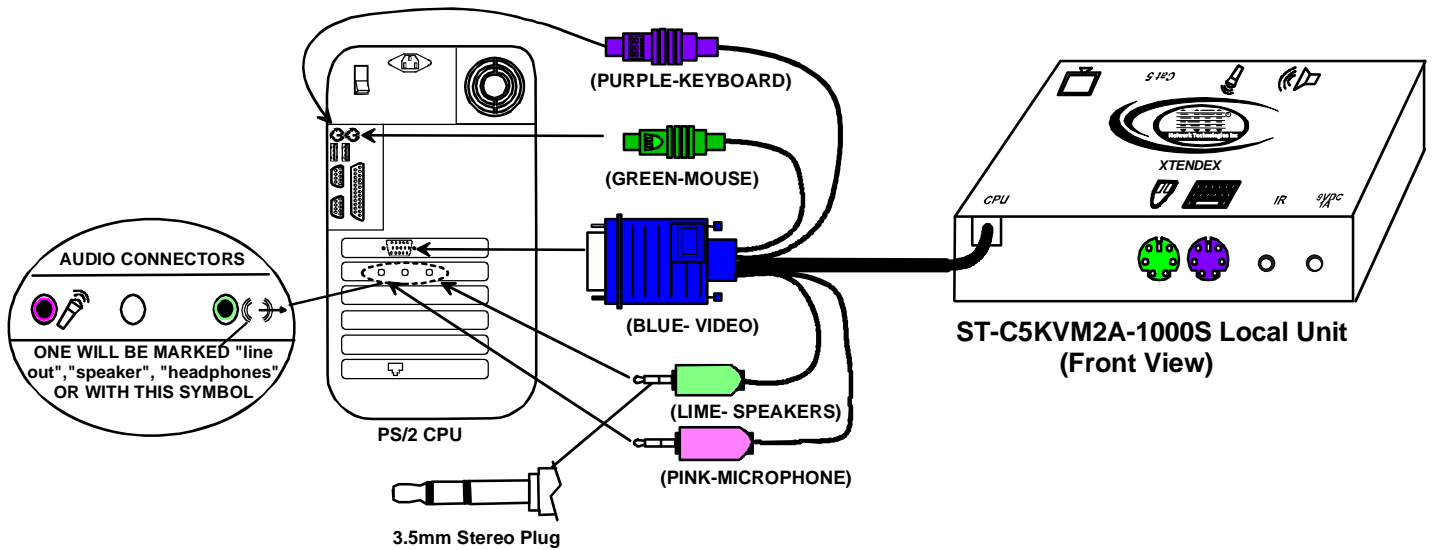

Figure 2- Connect the Local Unit with audio support to the CPU
- e) If the Local Unit has Audio support, connect the lime green 3.5mm stereo plug into the "line out", "speaker", or "headphones" jack on the back of the CPU. (See Fig. 2). Connect the pink 3.5mm stereo plug to the "line in" or "microphone" jack on the back of the CPU.